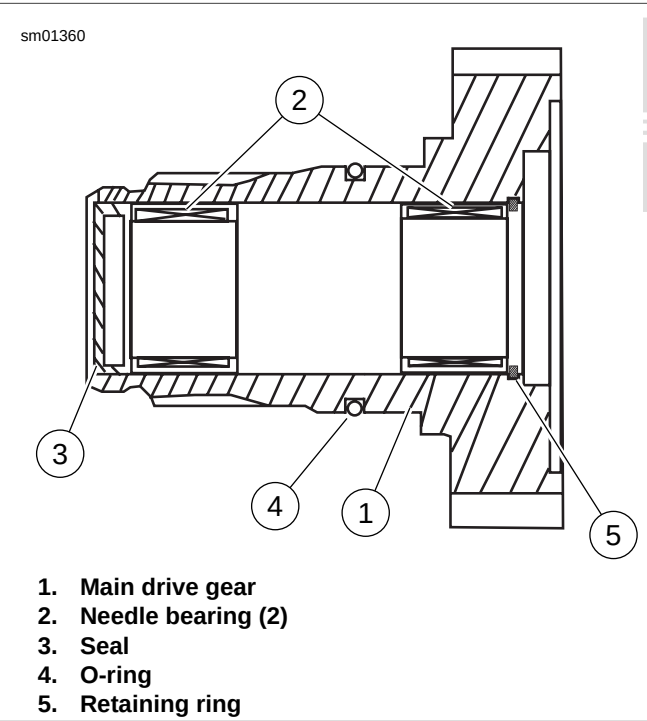

Figure 5-71. Main Drive Gear Assembly (typical)
2. See Figure 5-71. From inside right crankcase, tap out seal (3) at end of main drive gear (1). Discard seal.
- 2. See Figure 5-71. Drive out needle bearings (2) from inside bore of main drive gear (1) using appropriate bearing and bushing puller. Discard needle bearings. Do not reuse bearings after removal from drive gear bore.
- 3. Remove and discard o-ring (4).